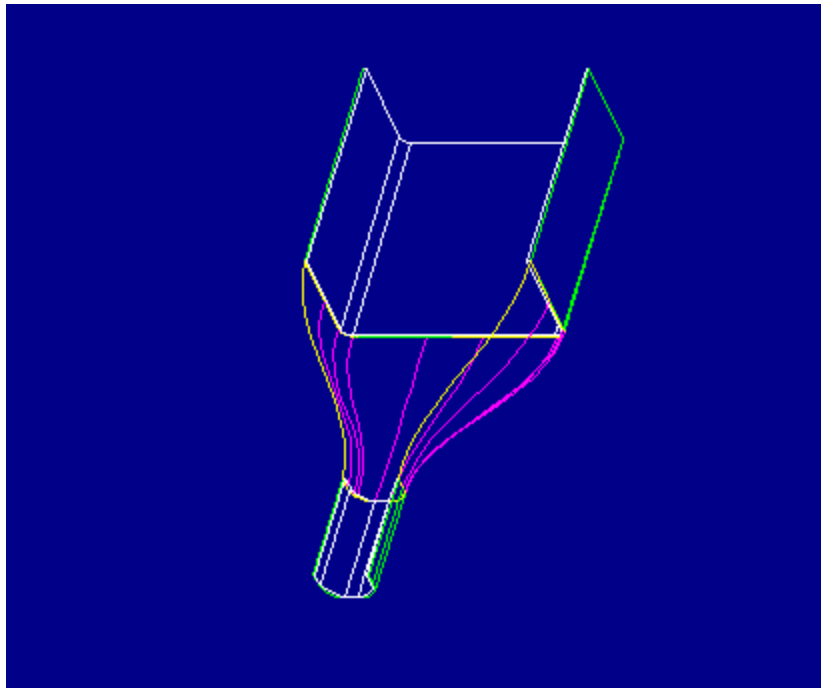

Figure 8
9. Select **Done** from the BOUNDARY menu and **Okay** from the Main dialogue box. Figure 8 shows the part after the surface feature has been created.